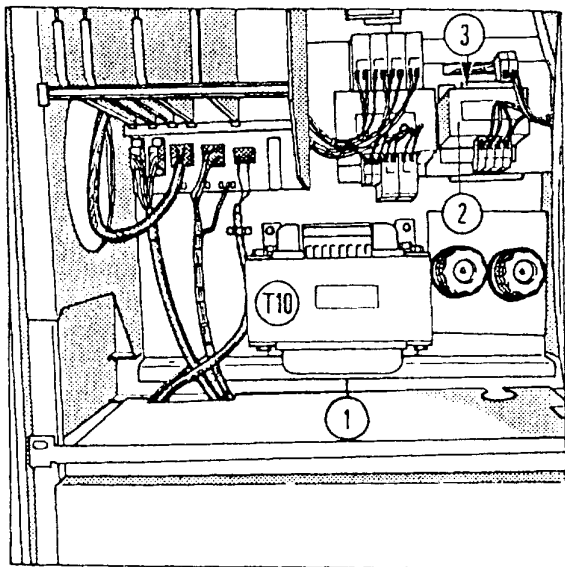

Fig.1
- There must be 230 V (+ 10%, -15%) at transformer T1 (2/Fig.1), terminals 1 and 3 (X 2117 -15-)
- There must be a voltage between 195 V and 264 V at the output of the line filter Z1 (mechanically behind transformer T1; 3/Fig. 1) (X 2117 -21-)